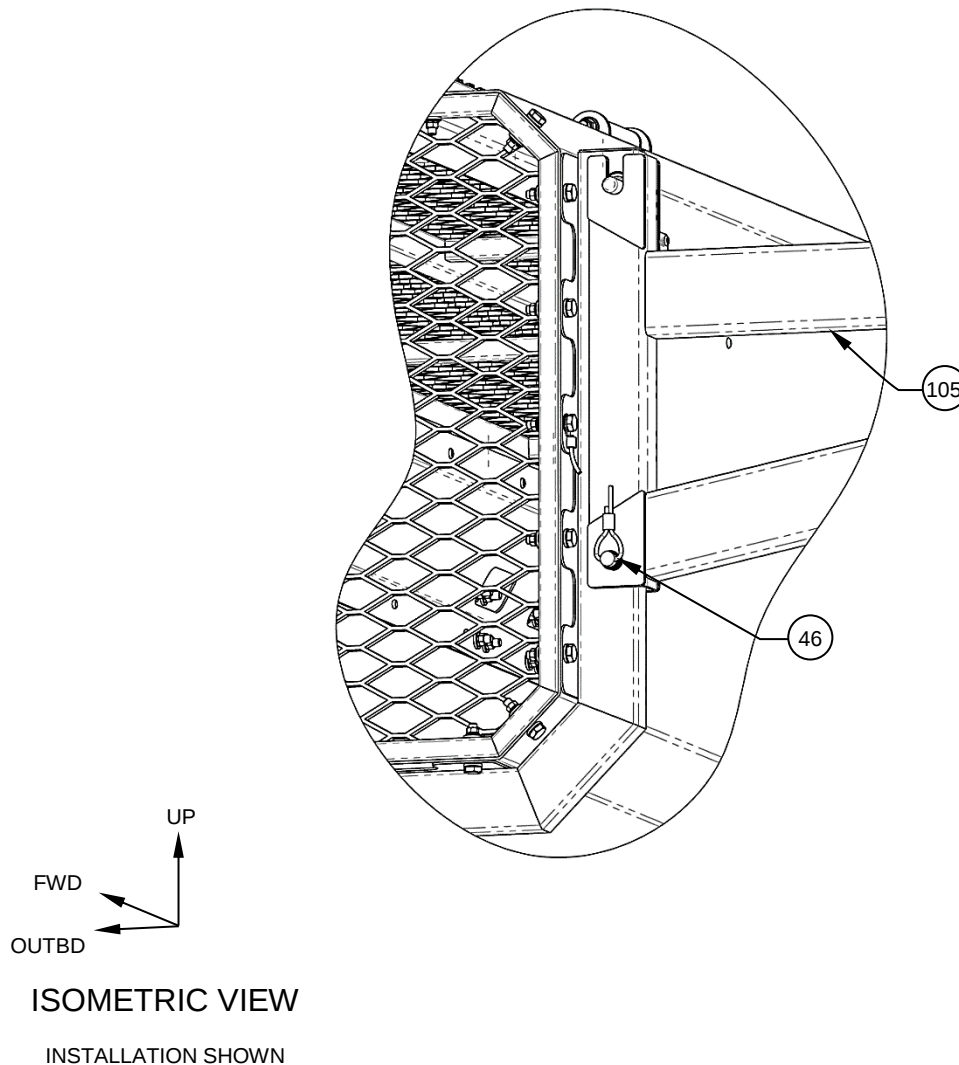

Figure 6
9. Install 2X Clamping Toggle-Lock Clevis Pin, (Item 46), in their locations to secure the basket. Reference Figures 6 & 7.